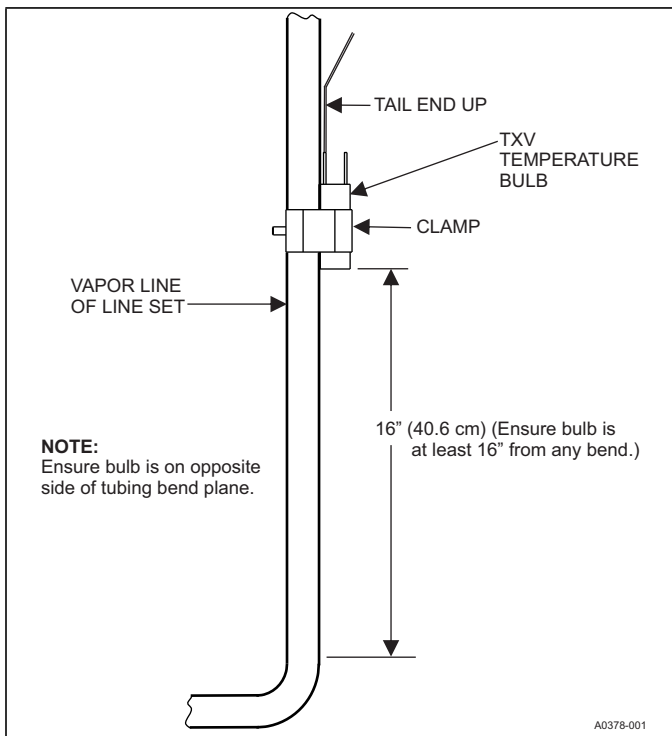

FIGURE 11: Vertical Temperature Bulb Orientation
- b. If bulb installation is made on a vertical run, ensure that the bulb is a minimum of 8 inches (20.3 cm) away from elbow coming out of the coil. Position the bulb with the tail of the bulb at the top, so that the bulb acts as a reservoir. See Figure 11.